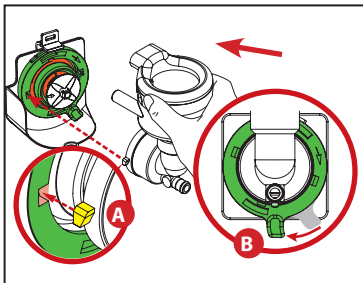

Fig.16
3. Turn the mounting plate clockwise until the mixer holes are aligned to the 3 o'clock and 9 o'clock positions. Align the guide hooks on the mixer bowl and insert them through the plate and into the chassis (A). Finally, lock the mixer bowl in by rotating the mounting plate clockwise until it completely stops turning and the tab is at the Lock position (B). (See Fig.16)